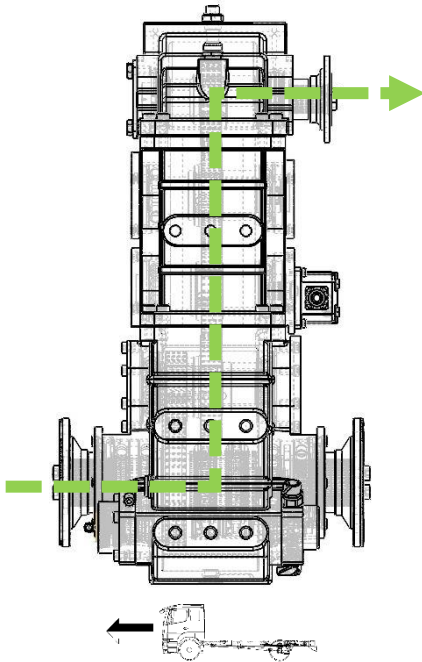
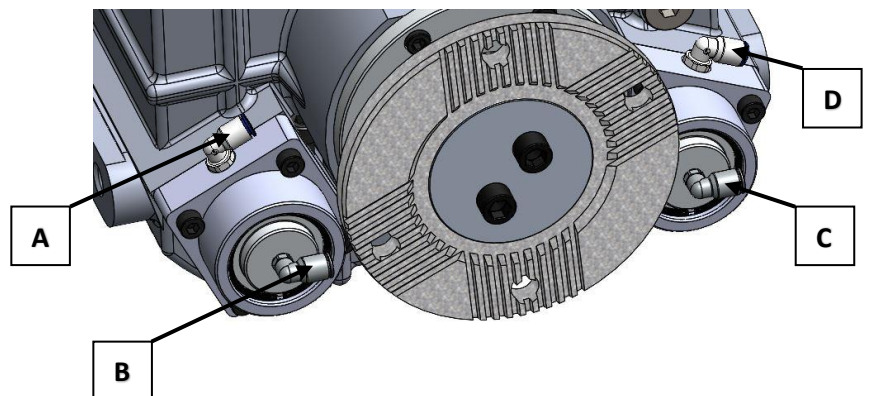

Figure 3
Figure 4
(Figure 3); First, activate air inlet (D). (The main drive will be disabled.) Then, activate air inlet (A). Air must be supplied continuously throughout the operation. (The air inlets are shown in Figure 4.)